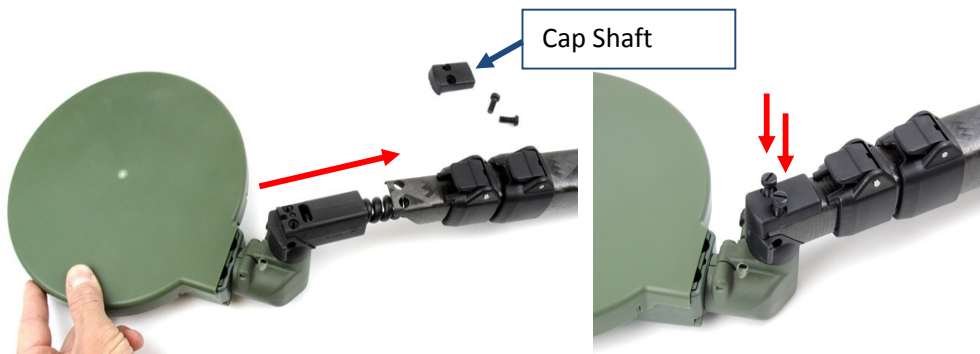

Figure 68: Connecting Coil to Lower Shaft
- Slide the coil into the end of the lower shaft. Fit the cap shaft then fit the two (2) screws (14mm Nylon) as shown in Figure 68.